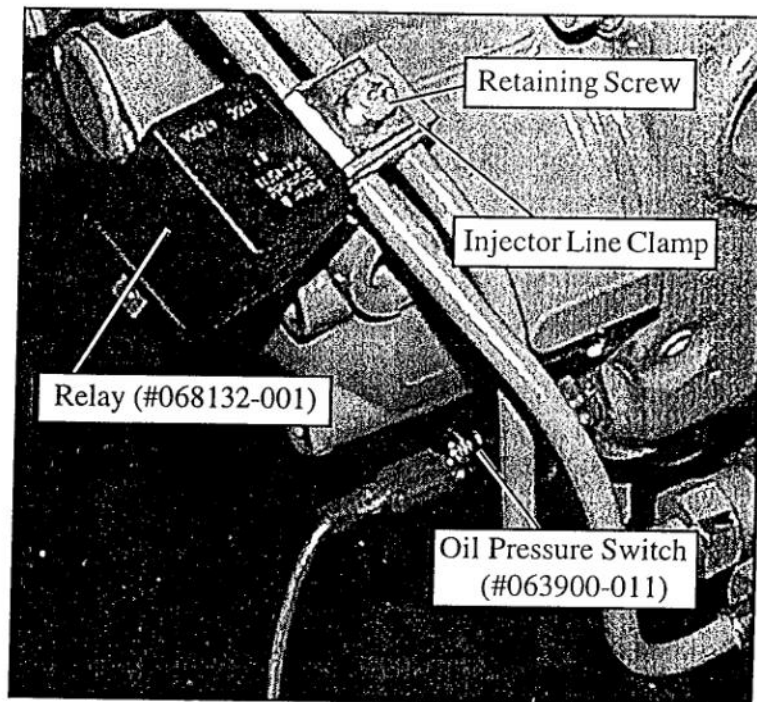

Figure 1
PROCEDURE: Read all instructions thoroughly and refer to figures 1 and 2 before starting.
2. Remove injector line clamp retaining screw (Figure.1), position Relay (#068132-001) on injector line clamp and install retaining screw.